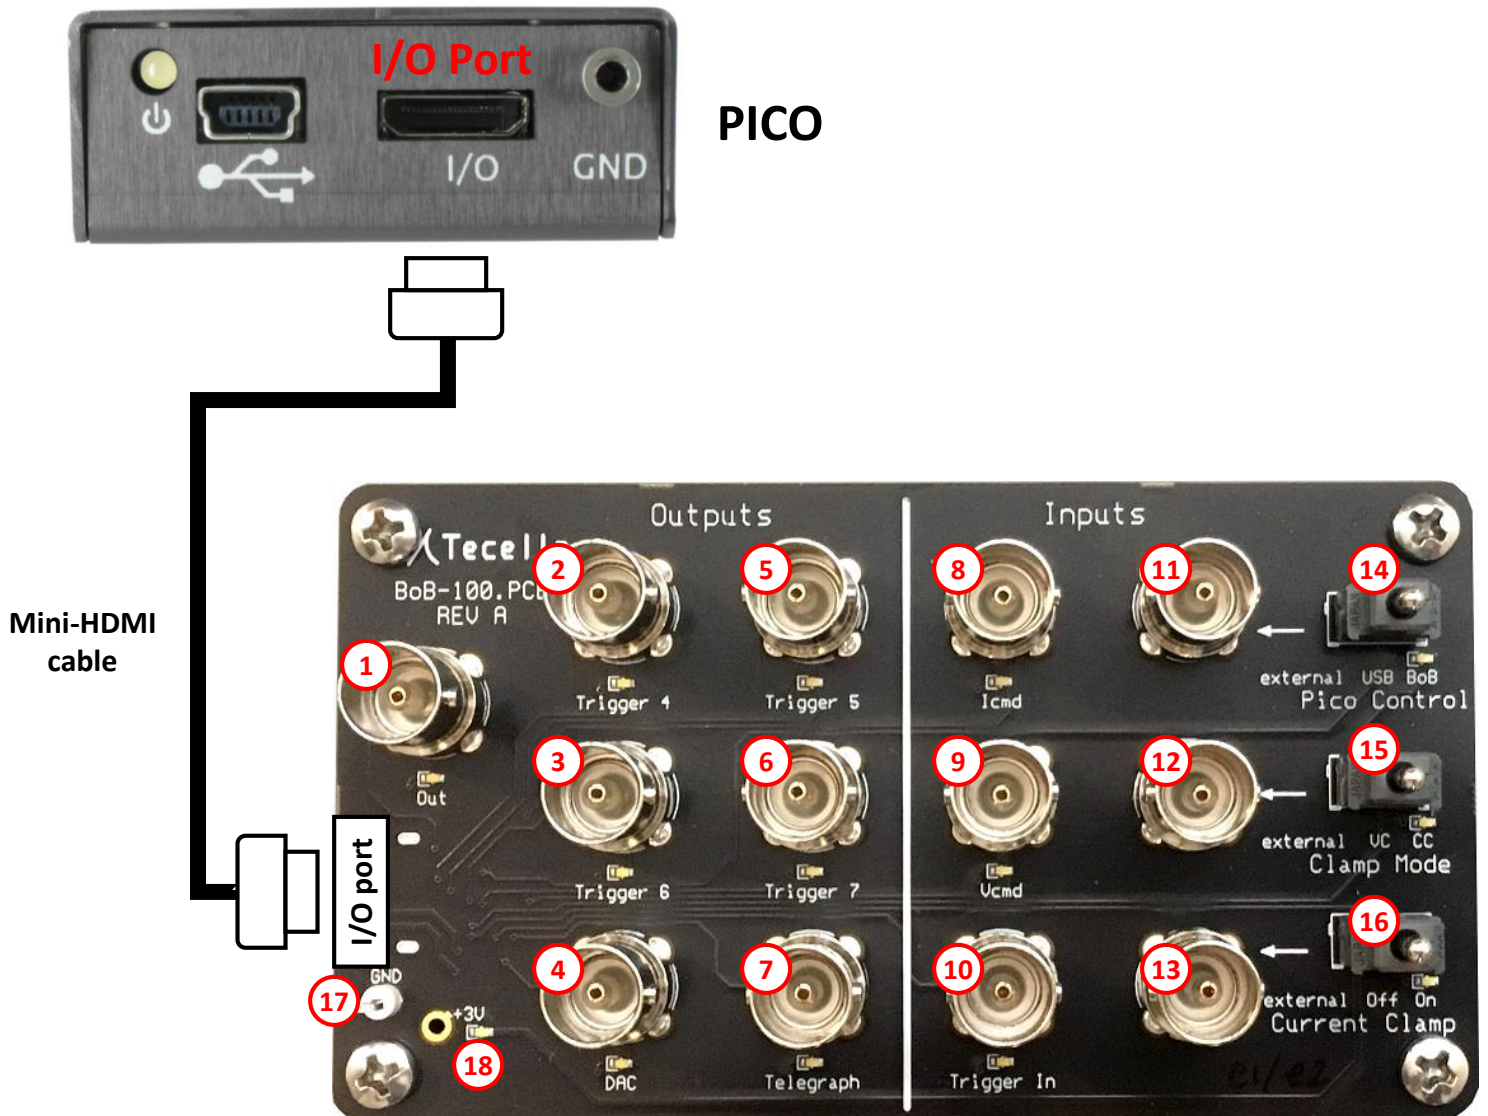

Figure 1. Break Out Box Front Panel
3. Insert the remaining Mini-HDMI connector into the I/O port of the Break-Out Box. This I/O port can be found at the side of the Break-Out Box, see **Figure 1**.
5. Connect BNC cables to the BNC connectors of interest on the front panel. Please see **Figure 1** and **Table 1**.